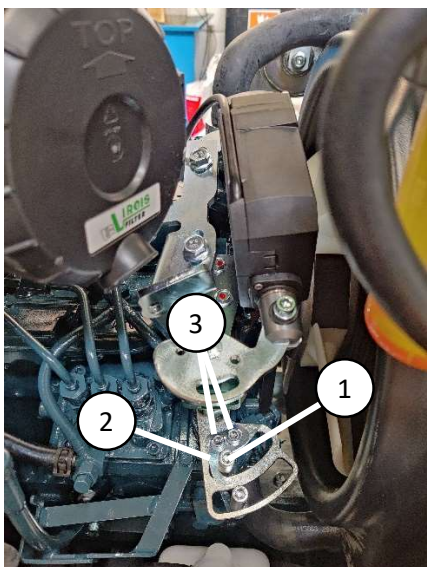

Figure 32. Throttle motor min. position
After this, set the diesel throttle motor position to 0%. Make sure that the engine stop lever goes into end position (figure 32 (1)). If it needs to be adjusted, loosen the bolts (figure 32 (3)) and move the adjustment plate (figure 32 (2)) so that the engine stop lever goes into end position. Tighten the bolts.